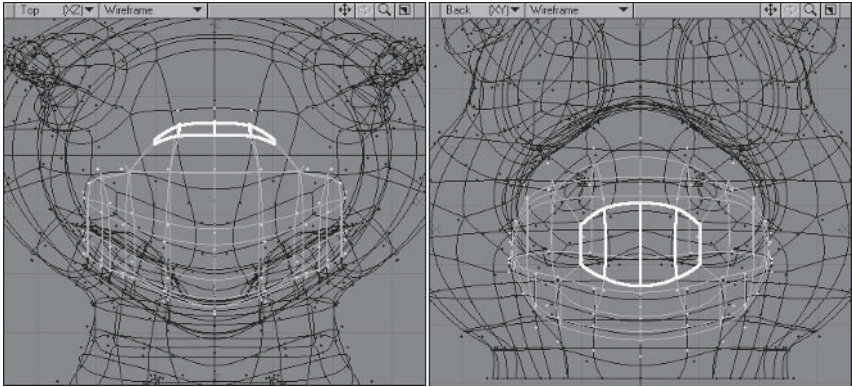

Figure 5.3-99. Creating the entrance to the throat.
6. Deselect the two outer polygons on each side and **Super Shift** in place. Move the polygons back and drag the points to match Figure 5.3-99.